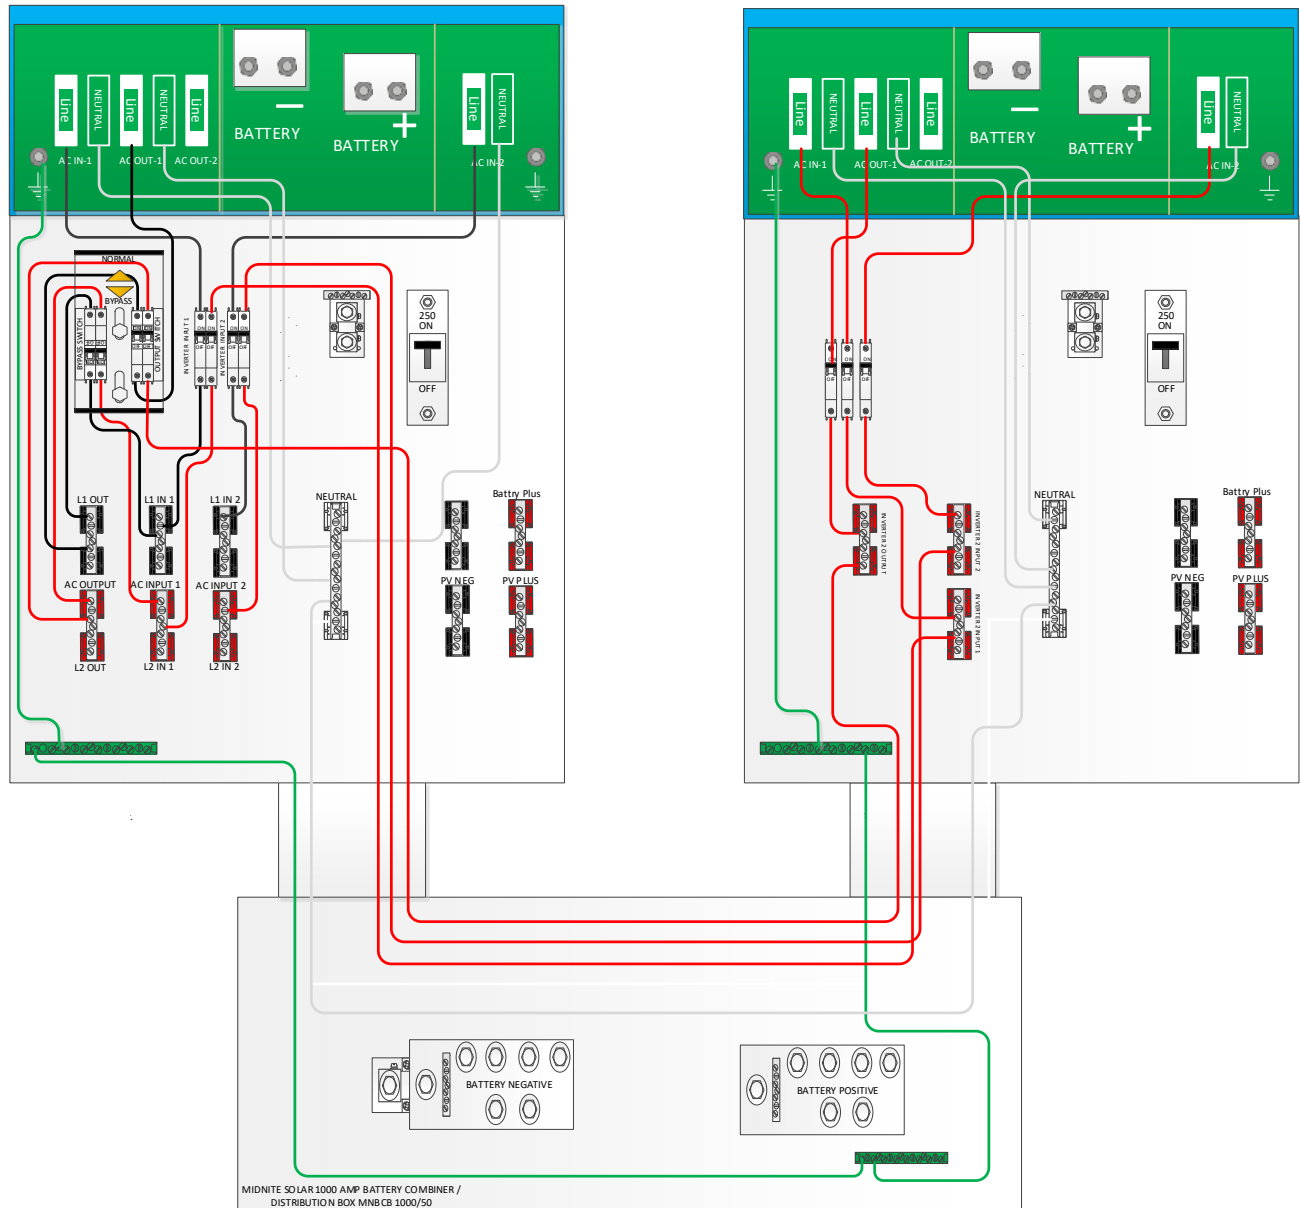

Figure 11 - NA 5kVA Dual Stack VE Panel AC Connection Points 3kVA Similar
- Use Figure 11 to view the AC connection points inside the VE Panel enclosure.